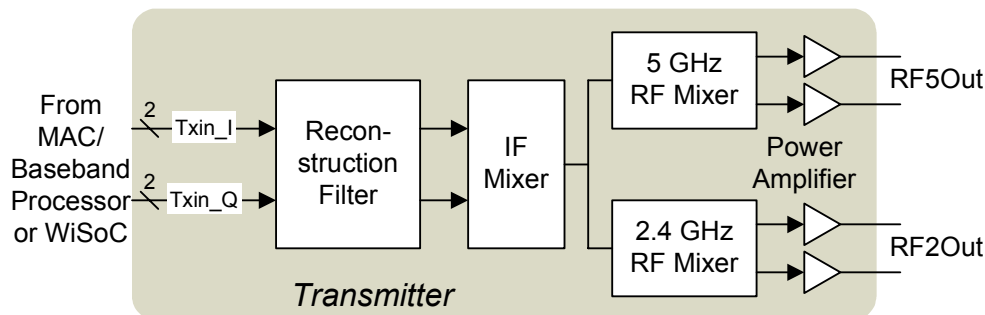

Figure 3-3. RF Transmitter Functional Block Diagram
The transmitter converts baseband I and Q inputs to 5 GHz RF outputs as shown in Figure 3-3. The inputs of the transmitter are current outputs of the DAC in the AR5212. These currents are low-pass filtered through on-chip reconstruction filter to remove spectral images and out-of-band quantization noise. The I and Q signals are converted to RF signals using an integrated up-conversion architecture. The intermediate frequency (IF) mixer converts the baseband signals to an intermediate frequency. The radio frequency (RF) mixer converts the IF signals into radio frequency